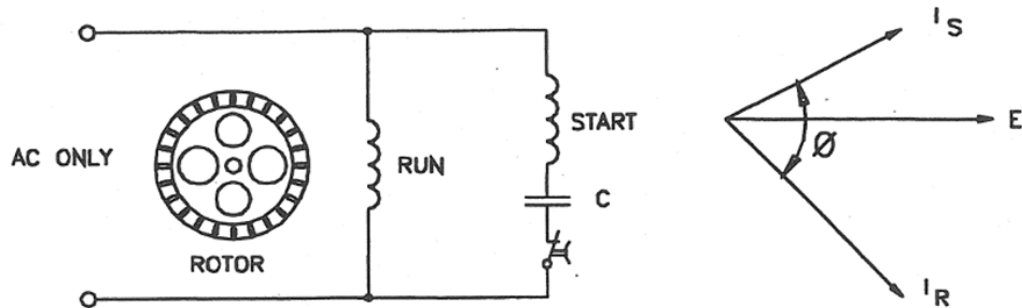

Figure 9 - Phase relationships in a typical capacitor start motor
27. The starting torque of a split-phase type motor can be improved by increasing the phase angle between the run winding current and the start winding current. This can be achieved by connecting a suitable capacitor in series with the START winding - the motor is known as a Capacitor-Start motor. A circuit diagram of the connections and a phasor diagram of the relationship between the currents in a typical capacitor start motor is shown in Figure 9.